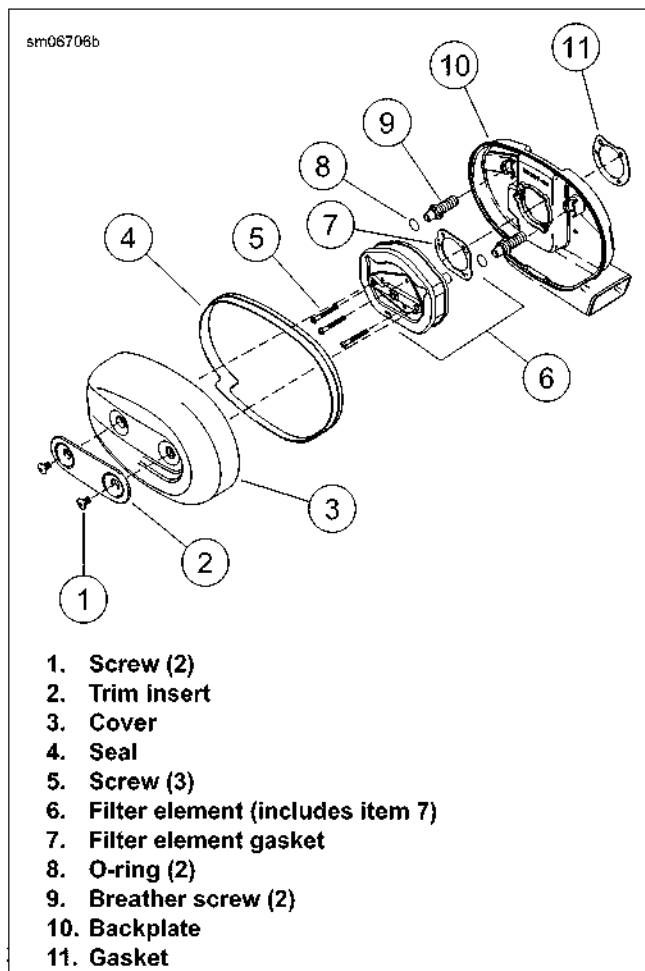

Figure 4-1. Air Cleaner Assembly
- See Figure 4-1. Remove screws (1) from air cleaner cover (3).
- All except XL 1200V:** Remove trim insert (2).
- Remove air cleaner cover from air cleaner backplate (10).
- Remove air cleaner seal (4) from air cleaner cover.
- Remove three screws (5). Remove air filter element (6) and gasket (7). Discard gasket.
- Remove O-rings from breather screws (9). Discard O-rings.
- See Figure 4-1. Position **new** gasket (11) and air cleaner backplate (10) at induction module air inlet.
- Apply **LOCTITE 243 MEDIUM STRENGTH THREAD-LOCKER AND SEALANT** (blue) to existing screws or use **new** breather screws (9). Install air cleaner backplate to engine heads. Tighten to 84-120 **in-lbs** (9.5-13.6 Nm).
- To prevent damage, apply a thin coat of engine oil to O-rings (8). Install O-rings to breather tubes.
- Position **new** gasket (7) on air cleaner backplate. Line up gasket holes with backplate holes.
- Install air filter element (6) onto backplate. Secure with three **new** screws (5) or apply **LOCTITE 243 MEDIUM**